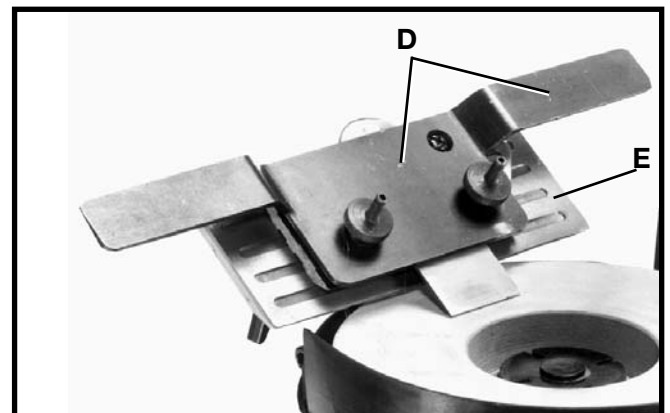

Fig. 28
2. Place the complete tool and chisel holder assembly (D) Fig. 28, on the tool rest base (E) as shown. Adjustment of the tool rest is explained in section "ASSEMBLING AND ADJUSTING TOOL AND CHISEL HOLDER."